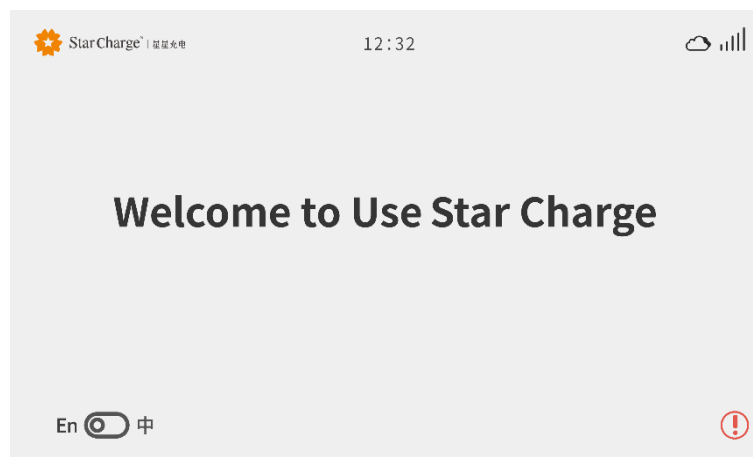

Figure 3-17 Abnormal charging interface
Step 8 When the LED status indicator of the charging device is red, it means that the device is malfunctioning, and an exclamation mark will appear in the upper right corner of the charging main interface, as shown in Figure 3-17.